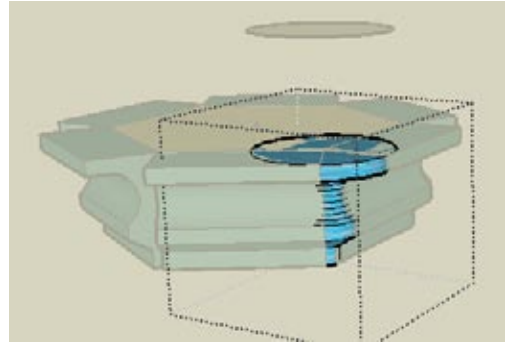

Figure 4-29
8. Use the Edit Group method to make the round object: Select the circle as the path, activate Follow Me, edit the group, and click the face (Figure 4-29).